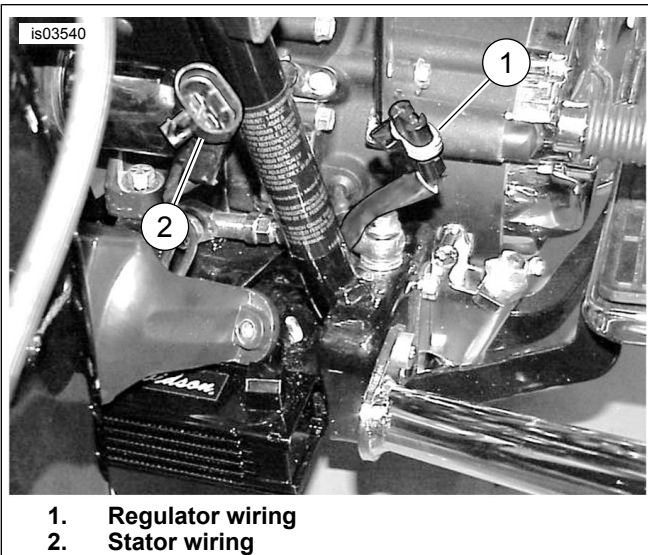

Figure 5. Stator and Regulator Wiring
11. See Figure 5. Connect stator (2) and regulator (1) wiring connections, then position the connector onto the bracket on bottom of the voltage regulator.